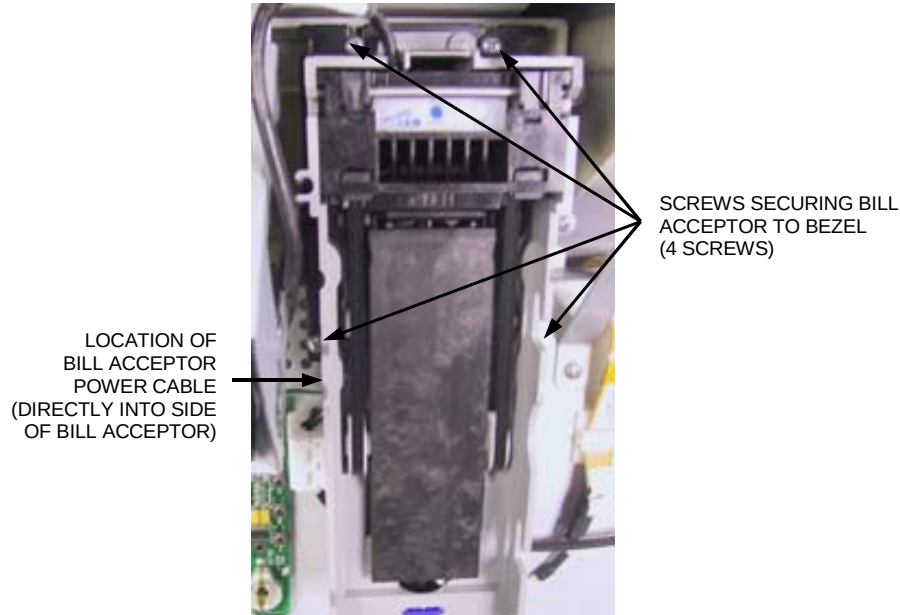

FIGURE 1 - BILL ACCEPTOR WITH MAGAZINE REMOVED
3. Pull out the bill acceptor magazine by pushing in the blue button at the bottom of the acceptor and then sliding the magazine down and out. Remove the four screws securing the bill acceptor to the bill acceptor bracket (see Figure 1).
4. Remove the bill acceptor from the unit and disconnect the bill acceptor power cable that runs into the side of the bill acceptor (see Figure 1).